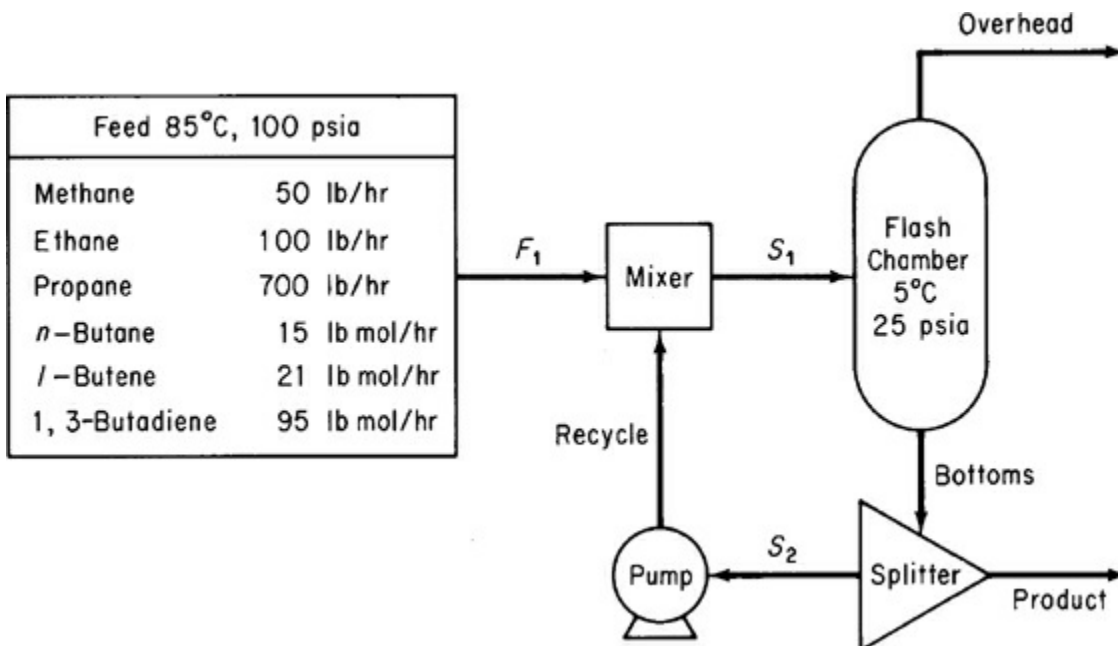

Figure P14.13
- 14.13** A gas feed mixture at 85°C and 100 psia having the composition shown in Figure P14.13 is flashed to separate the majority of the light from the heavy components. The flash chamber operates at 5°C and 25 psia. To improve the separation process, it has been suggested to introduce a recycle as shown in Figure P14.13. Will a significant improvement be made by adding a 25% recycle of the bottoms? 50%? With the aid of a computer process simulator, determine the molar flow rates of the streams for each of the three cases.